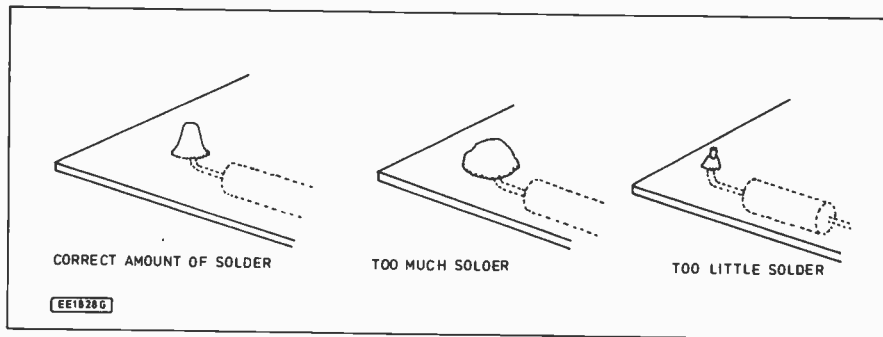

Fig. 5.27. The soldered joint.
4. Apply rosin cored solder to the joint (not to the iron). The molten solder should readily flow over the joint. Apply just enough solder to cover the joint (see Fig. 5.27).